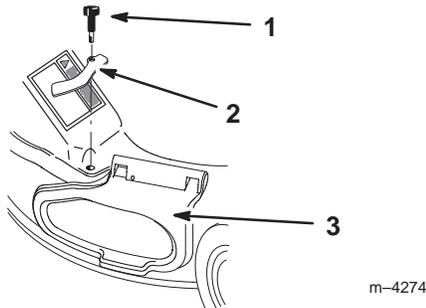

Figure 39
12. Secure the front right corner of the discharge tunnel and the side opening cover with the side cover clamp removed previously and the long knob supplied with the grass catcher (Fig. 39)